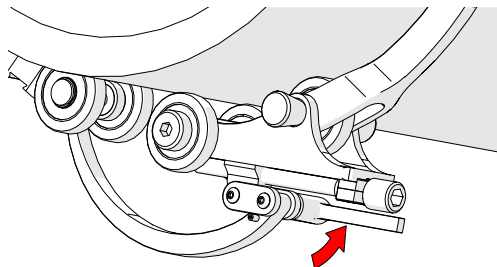

Fig. 151 - Press down to lock
8. Rotate the knob until the buckle's lever can be pushed down locking the buckle in place (Fig. 151). The tightness of the **ROTIX** on the pipe can be adjusted using the buckle adjustment knob (Fig. 150-1).